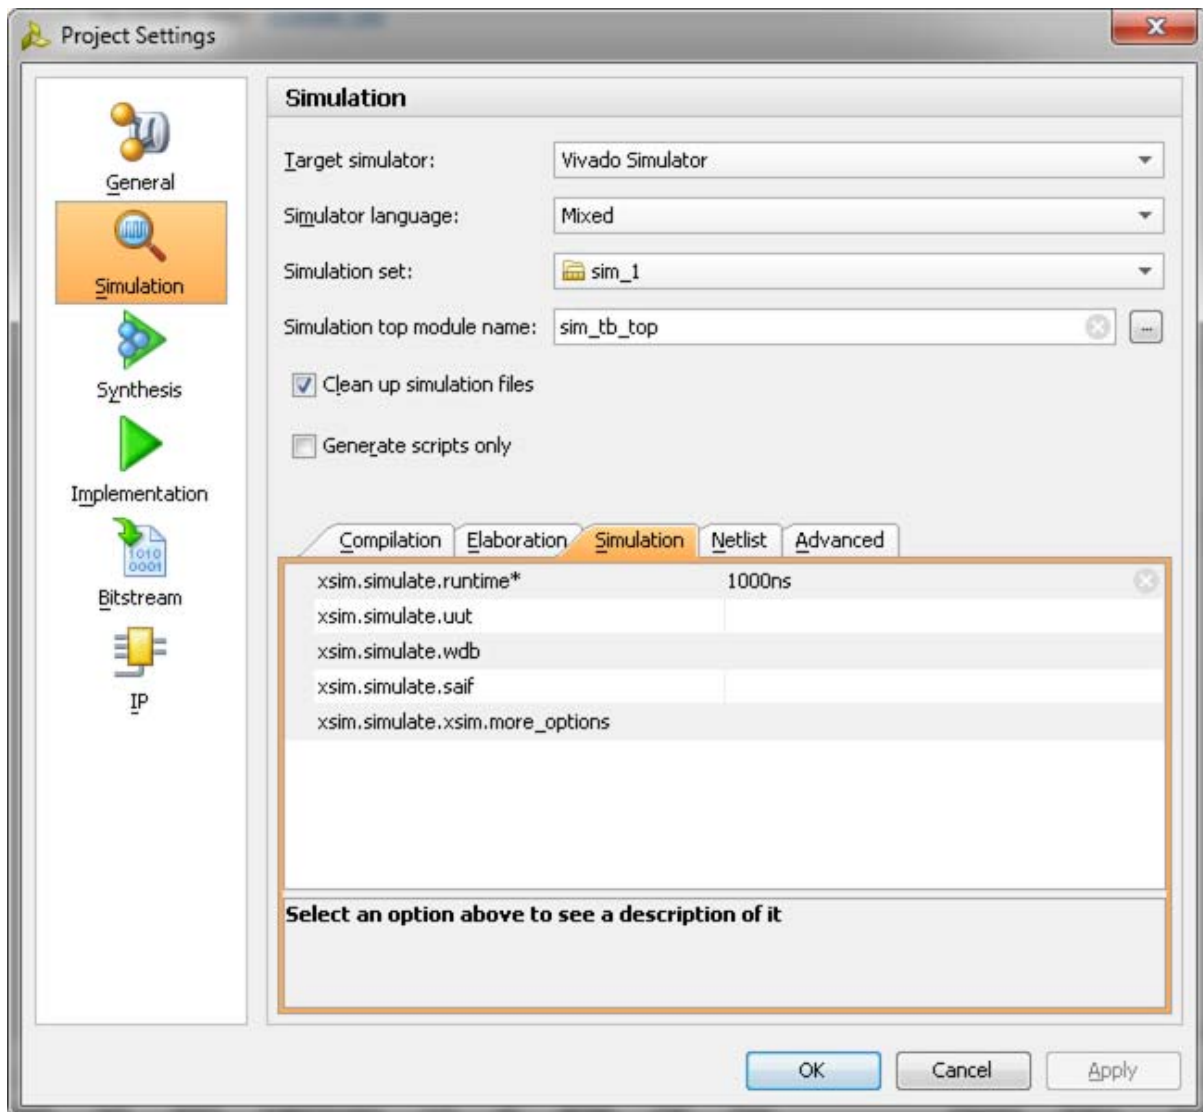

Figure 4-39: Simulation with Vivado Simulator
1. In the **Open IP Example Design** Vivado project, under **Flow Navigator**, select **Simulation Settings** (Figure 4-39).
2. Under the **Simulation** tab as shown in Figure 4-39, set the `xsim.simulate.runtime` as 1 ms (there are simulation RTL directives which stop the simulation after a certain period of time, which is less than 1 ms). Apply the settings and select **OK**.
- b. Under the **Simulation** tab, set the `modelsim.simulate.runtime` to 1 ms (there are simulation RTL directives which stop the simulation after certain period of time, which is less than 1 ms), set `modelsim.simulate.vsim.more_options` to `-novopt` as shown in Figure 4-39.